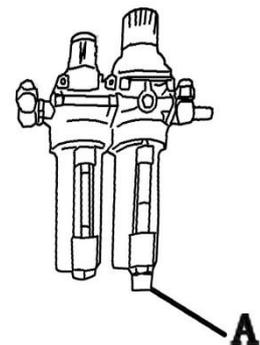

Fig 14
3. Pull the draining valve of water/oil separator to drain the water. (Fig. 14)